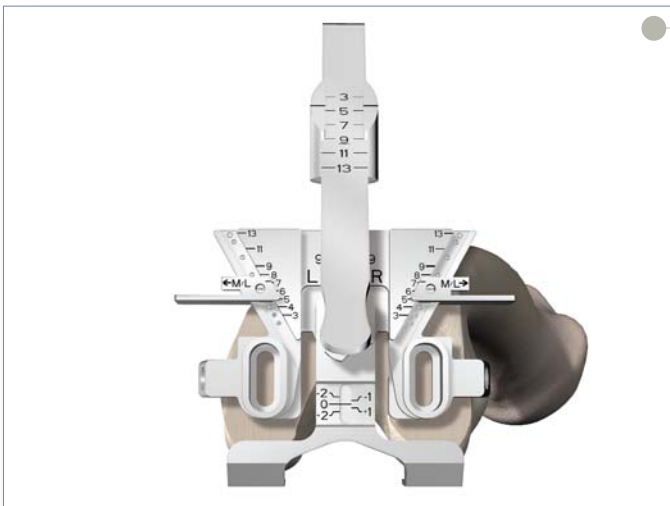

Figure 15
- ▶ When an adjustment of the A/P sizer is necessary, loosen the locking knob and reposition the A/P adjustment indicator until it indicates the “-2” position (**Figure 15**).